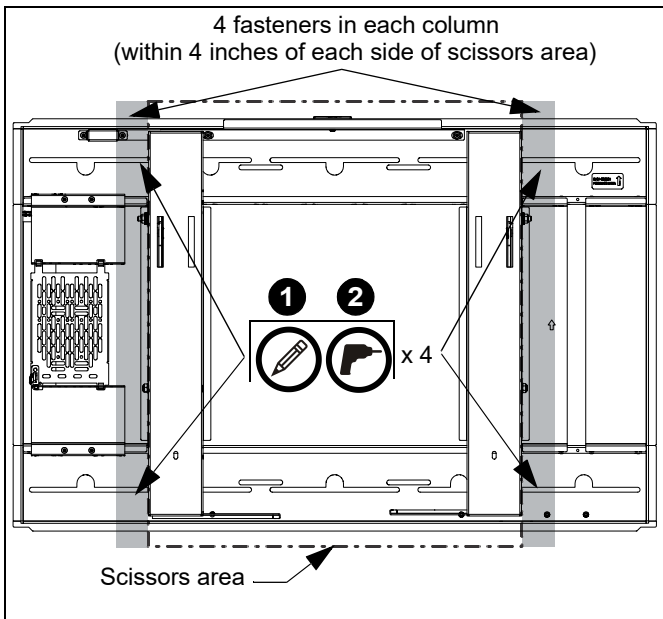

Figure 8
- **For concrete walls**, use a level and mark the eight locations for attachment in two columns, a column within 4 inches of each side of the scissors area. (See Figure 8)
2. Drill one pilot hole (see Table 1 for size) at top locations marked in Step 1 (See Figure 6), (See Figure 7) and (See Figure 8) and follow fastener information (appropriate for wall type) located in Table 1.
1. Remove and **SAVE** eight flathead Phillips screws and four hold down brackets. (See Figure 8)